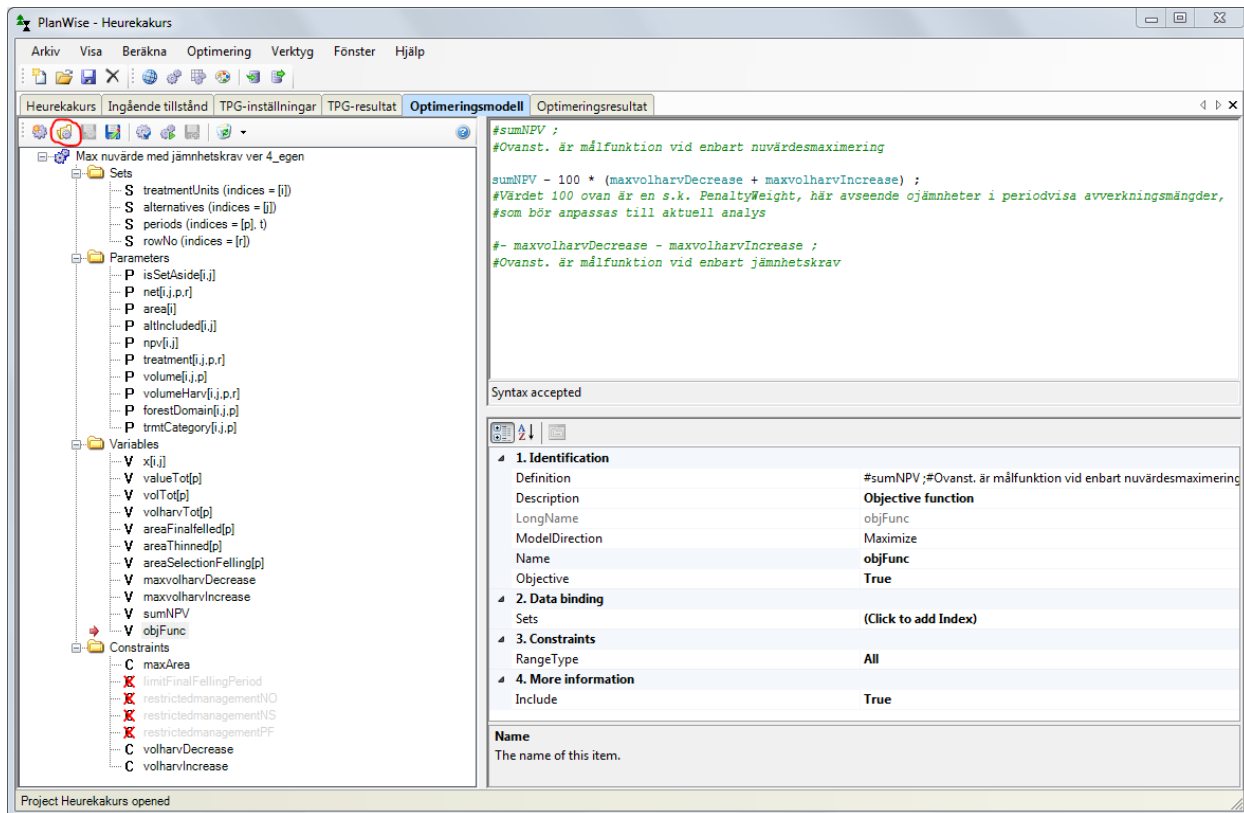

Figure 16
- Under the tab Optimization Model, select Open Model... (marked in figure 16). Select the model Max nuvärde med jämnhetskrav ver X.Hops (Max NPV with even-flow constraint). A good habit is to save your own version of the model so that you can modify it but will still be able to go back to the original version if needed.